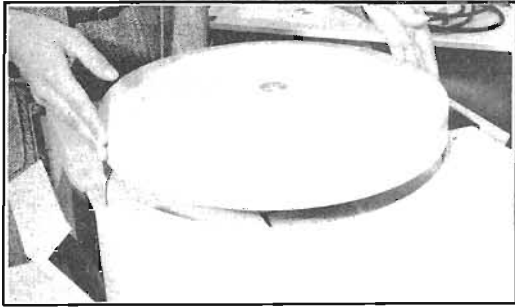
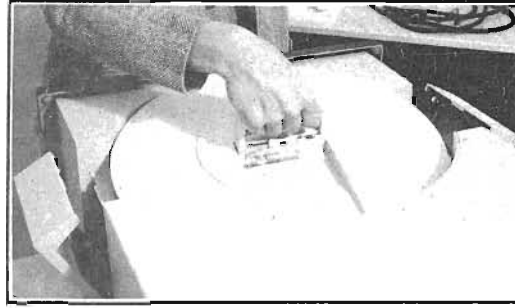

FIGURE 28
FIGURE 29
Step 8 - Remove the dust cover (Figure 28). Press the tab on the disk cartridge handle to the left, then raise the handle. This allows the disk to be lifted out of the disk bowl (Figure 29).